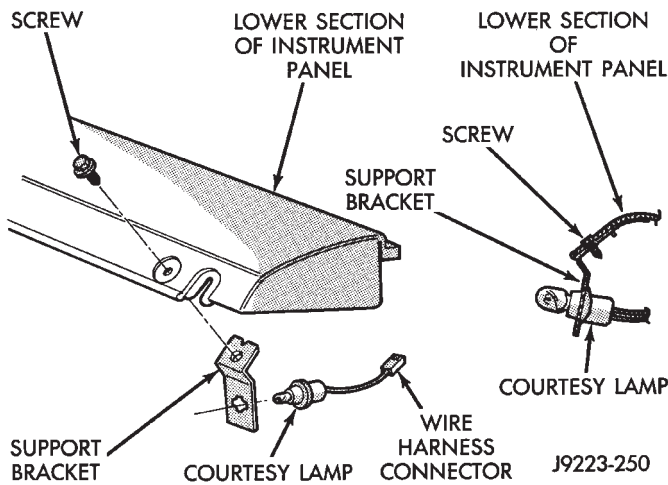

Fig. 20 Courtesy Lamp Support Bracket
(5) Disconnect the wire harness connector and remove the courtesy lamp support bracket screw (Fig. 20).